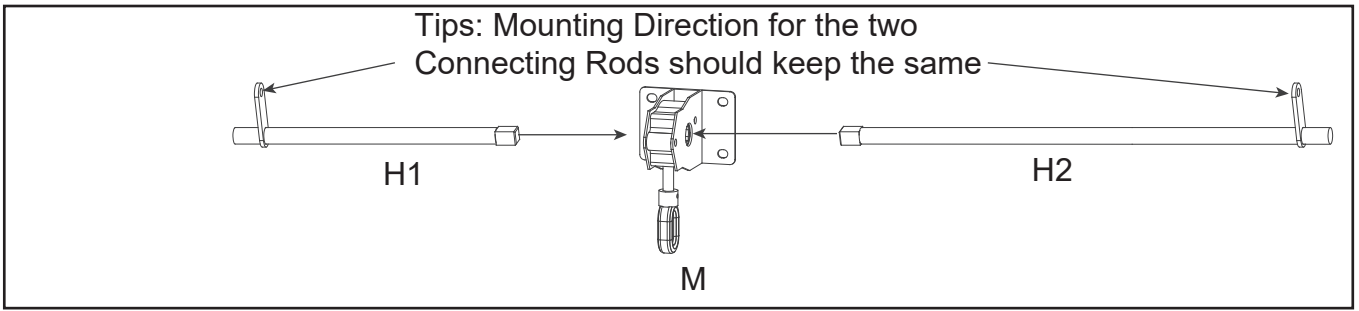

Figure 9.1
9. Insert one side of the two Connecting Rods (H1/H2) into the Spinner (M) and the other side into the Spinner (M), then attach the Spinner (M) to the Rear Lintel (F1/F2) and secure it with the Bolts (AA) and Washers (HH). Finally the other end of the Connecting Rods (H1/H2) is attached to the Lintels (B/C/E) using Bolts (CC), Washers (GG/HH) and Nuts (FF). See Figure 9.1- 9.3.